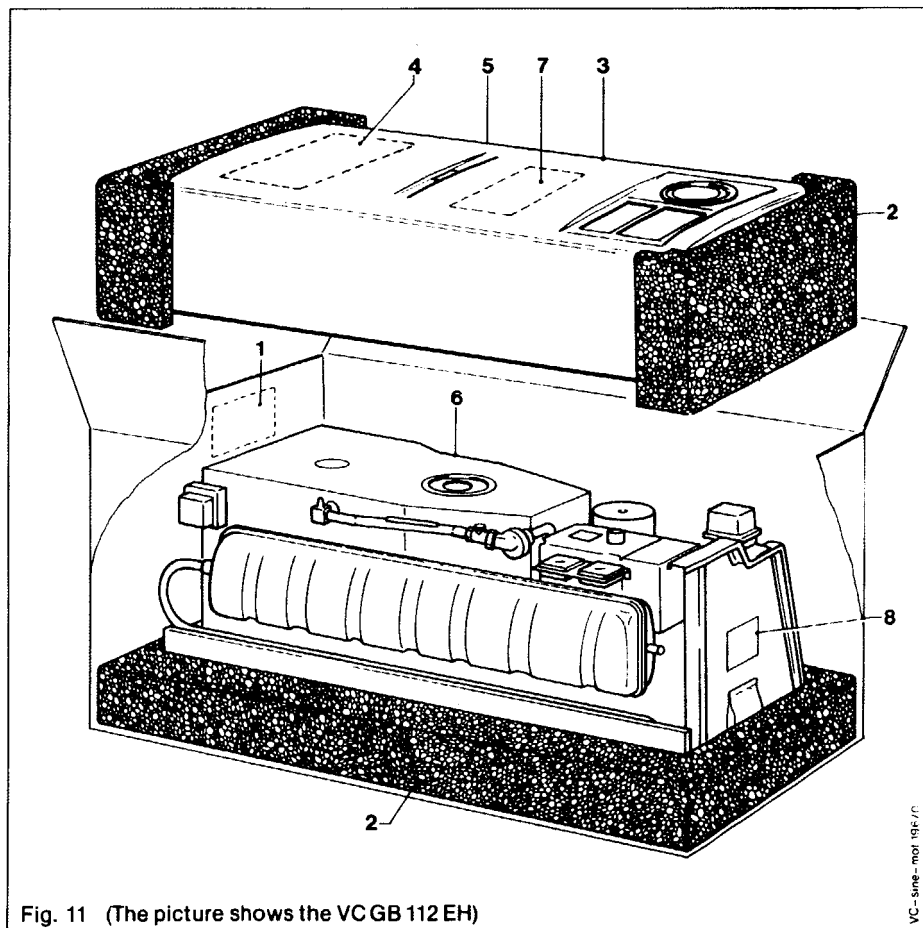

Fig. 11 (The picture shows the VCGB 112 EH)
the cased boiler (item 1, fig 11).